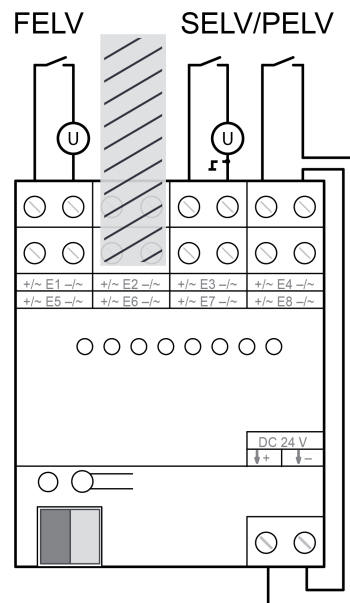

Figure 5: Connection example SELV/PELV and FELV circuits
- Leave two unused inputs between the inputs wired with SELV/PELV and FELV circuits (Figure 5).